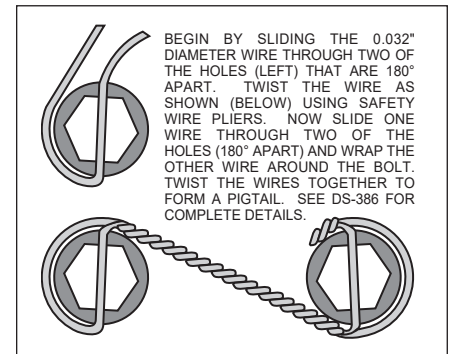

Figure 3. Safety Wire Diagram
- The caliper mounting bracket assembly (1) should be installed first with clean, dry threads on the mounting bolts. The bracket must tighten squarely against the inboard side of the caliper mount bosses on the spindle body. Inspect for interference from casting irregularities, machining ridges, burrs, etc. Slide bolt (2) through lock washer (3) then through the hole in the spindle body where the OEM bolt was removed. Use one thin shim (4) between the bracket and spindle during initial trial fitting. Later, after the caliper, pad and rotor alignment have been checked, and any necessary shims have been put in place, the mount bolts (2) should be coated with red *Loctite*® 271 and torqued to 60 ft-lb.
- With the larger I.D. side of the rotor (5) facing away from the hat (6), bolt rotor (5) to hat (6) through the backside of the rotor using washers (7) and bolts (8). Using an alternating sequence, apply red *Loctite*® 271 to the threads and torque bolts to 155 in-lb. For an added measure of security, the bolts may be safety wired using standard 0.032 inch diameter stainless steel safety wire as shown in Figure 3. Please refer to Wilwood's data sheet DS-386 (available at www.wilwood.com/Pdf/DataSheets/ds386.pdf) for complete safety wire installation instructions. Slide the rotor/hat assembly onto the spindle. Install a couple of lug nuts (hand tighten) to keep the rotor/hat assembly in place while continuing with the installation.
- With the bleed screws pointing up, mount the caliper (9) onto the caliper bracket (1) with the self locking hex nut (10), flat washer (11), through the top of the caliper and mounting stud (12) with .035" thick shim (13) and spacer (14) positioned between caliper (9) and caliper mounting bracket (1). Finger tighten. Check to see that the top of the rotor is aligned with the top of the brake pad. If adjustment is necessary, add or subtract flat washers (13). View the rotor (5) through the top opening of the caliper (9). The rotor (5) should be aligned in the center of the caliper (9). If not, adjust the caliper (9) by adding or subtracting shims (4) and/or (16) placed between the spindle assembly and the caliper mounting bracket (1). Finger tighten and recheck alignment. Lubricate caliper mounting studs and nuts with lightweight oil, reinstall the caliper, torque the caliper nuts (10) to 30 ft-lb.
- Remove the bridge bolt from the caliper (9) and install the disc brake pads (15). Reinstall the caliper bridge bolt.